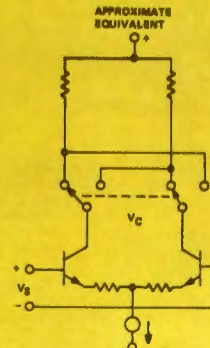

Fig. 15b. Further Simplified Schematic of Balanced Modulator showing the Switching Equivalent Circuit.
- If the amplitude of the carrier waveform is large compared to the saturation and cut off levels of the transistors, then the carrier waveform causes the two sections to switch on alternate half cycles as shown in Fig. 15b and 15c.